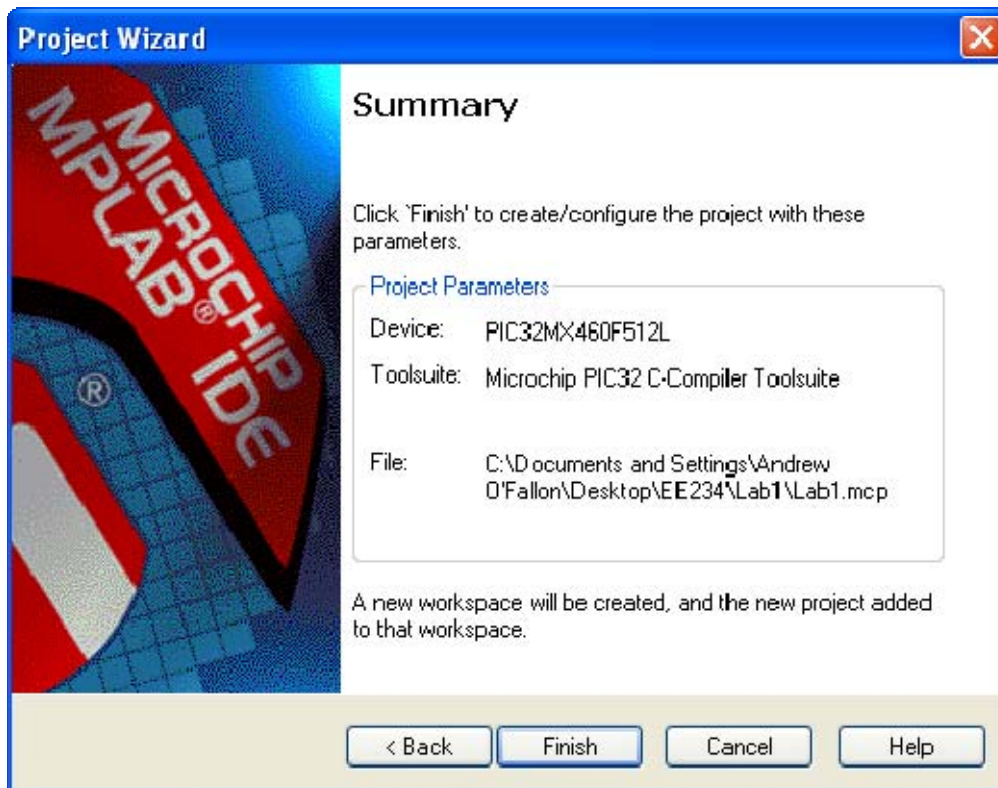

Figure 10: Summary Window
Step 8: Click "Finish" (Figure 10) to complete the project setup phase.